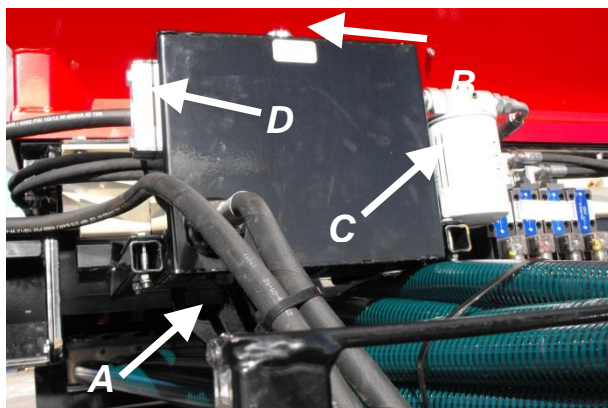

Figure 23A
- ☞ The oil reservoir [Figure 23A] of the metering drive system uses Dextron III oil. Capacity 8 liters.
Change the oil and filter from the small tank [Figure 23A] of the distribution system at the beginning of each planting season or application. The temperature changes during the offseason and can cause condensation insides of the transmission, thus reducing the efficiency of the lubrication.
To drain the oil, remove the drain plug [Figure 23A, **A**] at the bottom of the tank. To facilitate the flow, remove the filler cap [Figure 23A, **B**] and filter [Figure 23A, **C**]. Reinstall the drain plug and a new filter, then fill the tank with Dextron III oil to the recommended level, approximately 8 liters. A window indicates the oil level [Figure 23A, **D**]. Check the oil level every day, fill as needed.